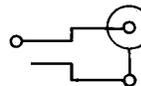

Fig. 17—343B Plug
2.16 **343B:** The 343B plug (Fig. 17) has inner and outer contacts that are provided with terminals at the rear for connecting wires. The 342B replaces the 343A and is used with the 466- or similar-type jacks.